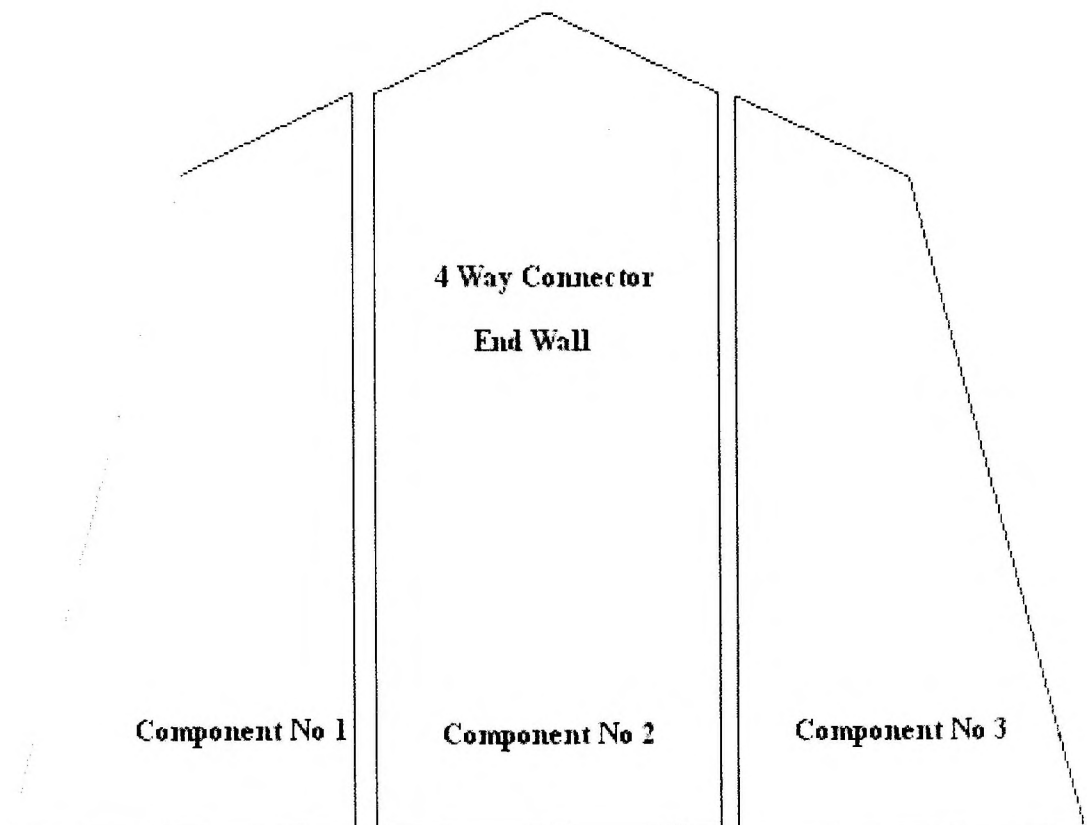

Fig 15 The Mk 3 end panel (Typical arrangement)
12.2 The Mk 3 end panel consists of 3 items per end and are shown in Fig 15, viewed from the inside.
12.9 Lay the groundsheet down inside the connector and attach to the framework (Fig 15).